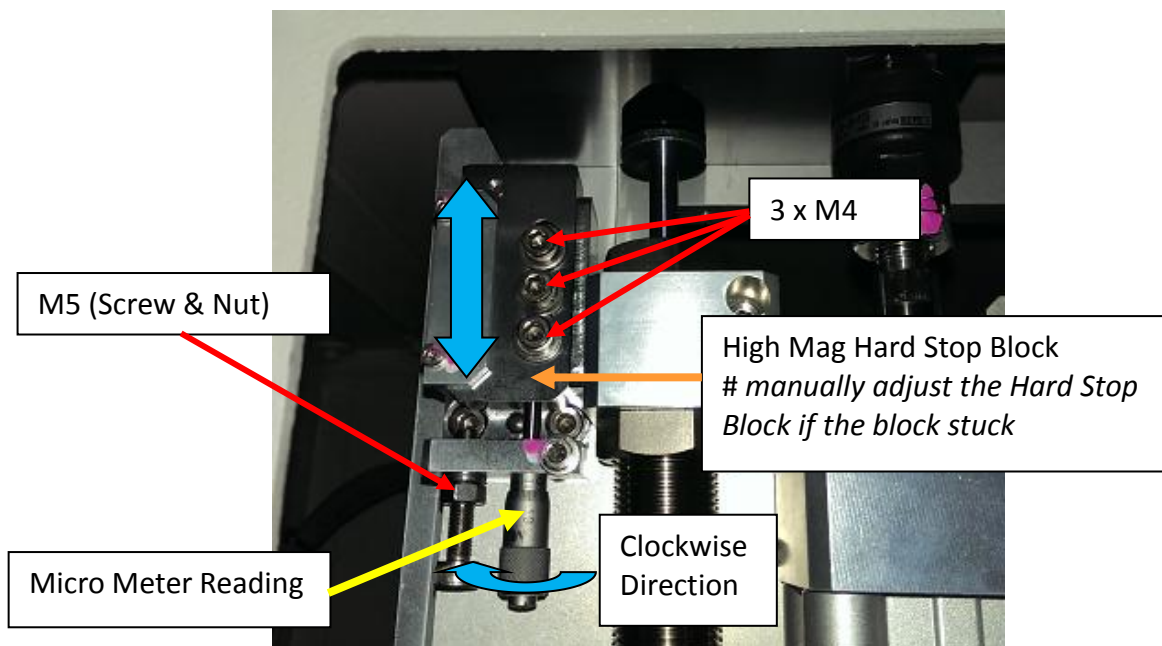

Figure 24 High mag hard stop
29. Loosen Hard stop Block Screw (3 x M4) and the Hard Stop Support Screw & Nut (M5) as Figure 24.